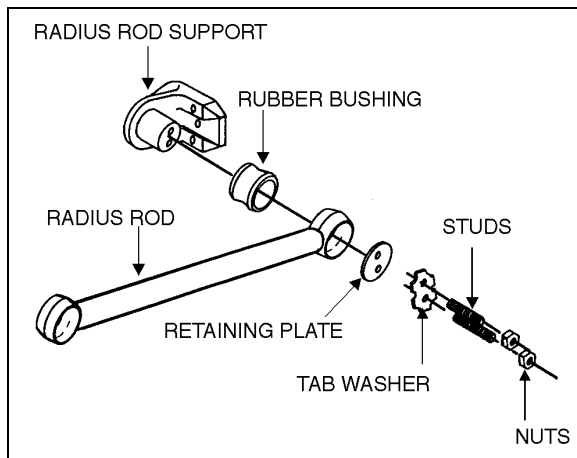

FIGURE 5: TYPICAL RADIUS ROD SETUP 16010
1. Remove nuts and washers from shock absorbers on upper and lower mounting pins, taking care to identify the inner and outer washers to ease reinstallation. Refer to figure 5 for details.
1. Flatten the tab washer which secures the two retaining nuts (or bolts), and then unscrew the nuts (or bolts) at each extremity of the radius rod (Fig. 5).